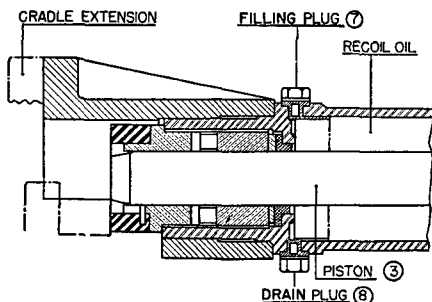

FIGURE 8.—Rear portion, front buffer (sectioned view).
■ 44. FILLING FRONT BUFFER CYLINDER (fig. 8).—Depress gun as far as it will go. Remove filling plug (7) located at top of front buffer cylinder. Fill mechanism with heavy recoil oil, low pour point (U. S. A. Spec. 2-96). Replace filling plug. It is essential that mechanism be filled completely with recoil oil at all times.
■ 45. DRAINING FRONT BUFFER CYLINDER (fig. 8).—With gun elevated slightly above horizontal, remove drain plug (8) located at bottom of cylinder.